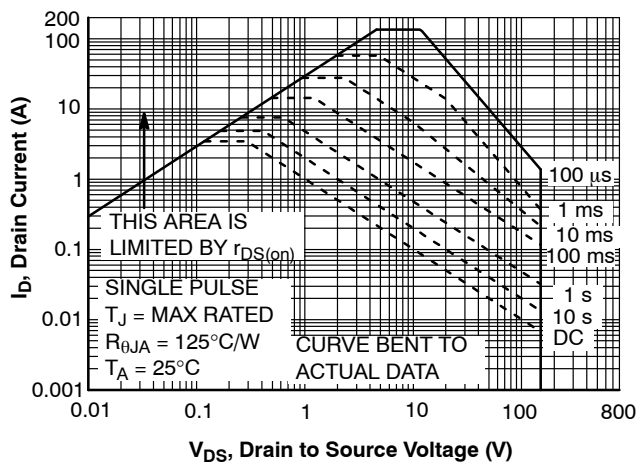

Figure 11. Forward Bias Safe Operating Area
4. Pulsed I_d please refer to Figure 11 SOA graph for more details.